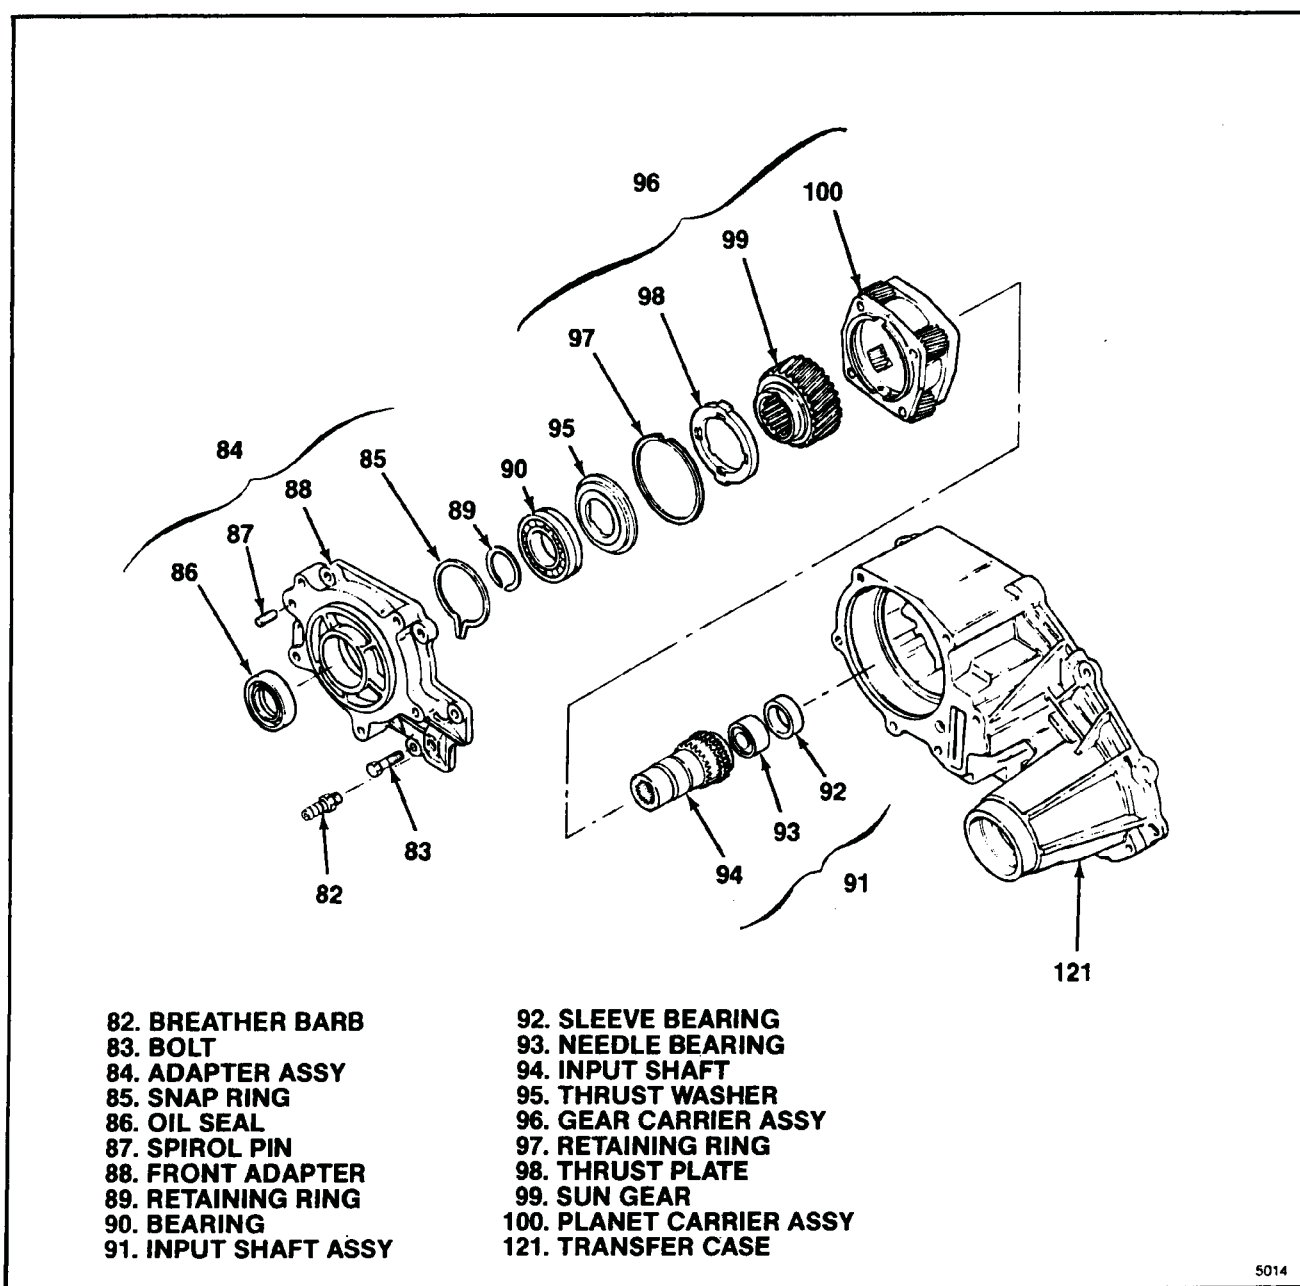
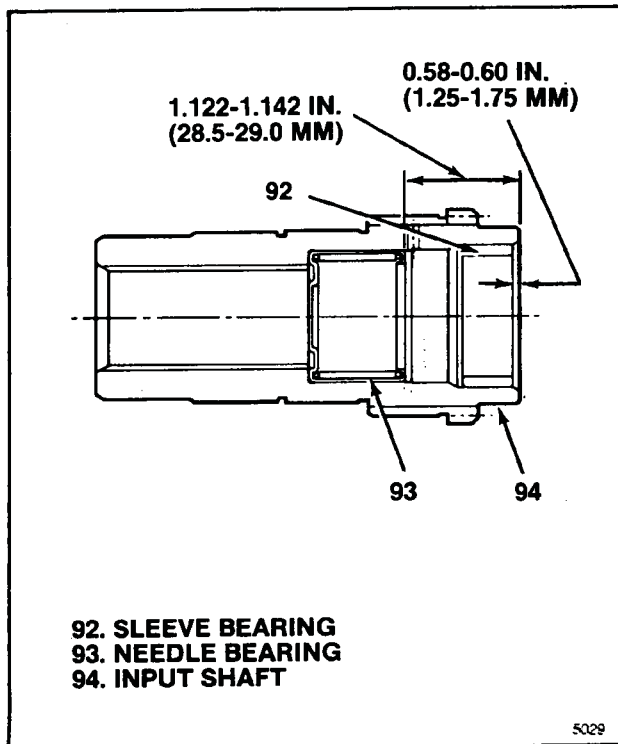
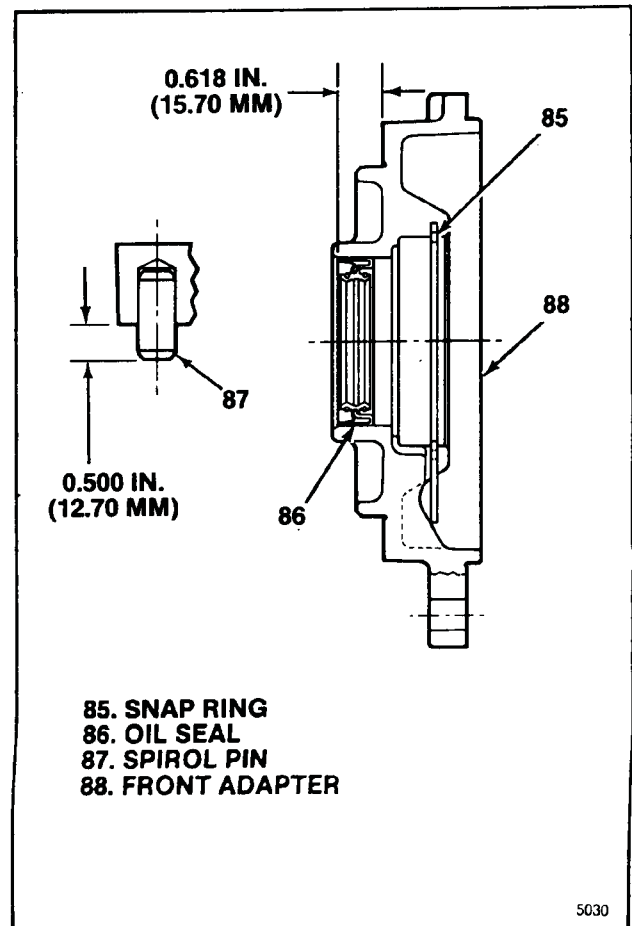

Figure 5-8. Adapter, Input Shaft and Gear Carrier Group
Figure 5-9. Input Shaft Assembly
Figure 5-10. Front Adapter Assembly
**5-8. ASSEMBLY OF ADAPTER, INPUT SHAFT AND CARRIER GROUP.** On work bench, assemble parts as follows (see figure 5-8):
a. Lay planet carrier assembly (100) on work bench with end having groove for snap ring (97) up.
b. Install sun gear (99) with hub end up. Rotate gears of planet carrier assembly (100) as required until sun gear is fully meshed.
c. Align tabs and install thrust plate (98) into planet carrier assembly (100)
d. Install retaining ring (97) to complete gear carrier assembly (96).
e. If removed, position needle bearing (93) as shown in figure 5-9 and press into input shaft (94) to dimension shown. Press in new sleeve bearing (92) to dimension shown in figure 5-9 to complete input shaft assembly (91).
f. Lift up gear carrier assembly (96) and install input shaft assembly (91) up through gear carrier assembly. Install thrust washer (95) and press bearing (90) over end of input shaft assembly. Retain bearing on input shaft with retaining ring (89) in shaft groove.
g. If removed, press new pin (87) into front adapter (88) to dimension shown in figure 5-10.
h. Apply Loctite 609 to bore area in front adapter (88) where oil seal (86) is to be installed (see figure 5-10). Position oil seal as shown in figure 5-10 and press into front adapter to dimension shown.
i. Install snap ring (85) in groove in front adapter (88) with long ends of snap ring in adapter groove to complete front adapter assembly (84).
j. Position front adapter assembly (84) with face that mates with transfer case (121) up. Support on wood blocks to provide clearance for input shaft assembly (91). Position assembled input shaft and carrier group (89 through 100) over front adapter with input shaft (94) down. Lower shaft and carrier group while expanding long ends of snap ring (85) until snap ring engages groove in OD of bearing (90).
k. Apply continuous 1/16 in. (1.6 mm) bead of sealant (Neutral Cure RTV, Loctite 598) all around transfer case (121) mounting face for front adapter (88). Center sealant bead between edges of face. Circle bolt holes.
l. Install assembled adapter, input shaft and carrier group (85 through 100) on transfer case (121) and attach with six bolts (83). Torque bolts to 20-34 lb-ft (27-46 Nm).
m. Install breather barb (82) and torque to 6-14 lb-ft (8-19 Nm).